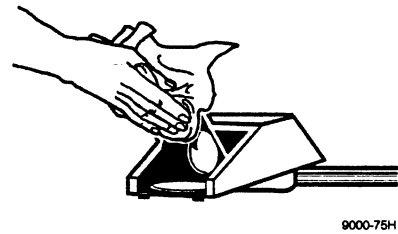

Figure 3-3. Removing Smudges or Fingerprints
2. To remove smudges or fingerprints, dampen a cotton ball or soft, lint-free cloth with 3M overhead cleaner and gently rub mirror surface. Figure 3-3.